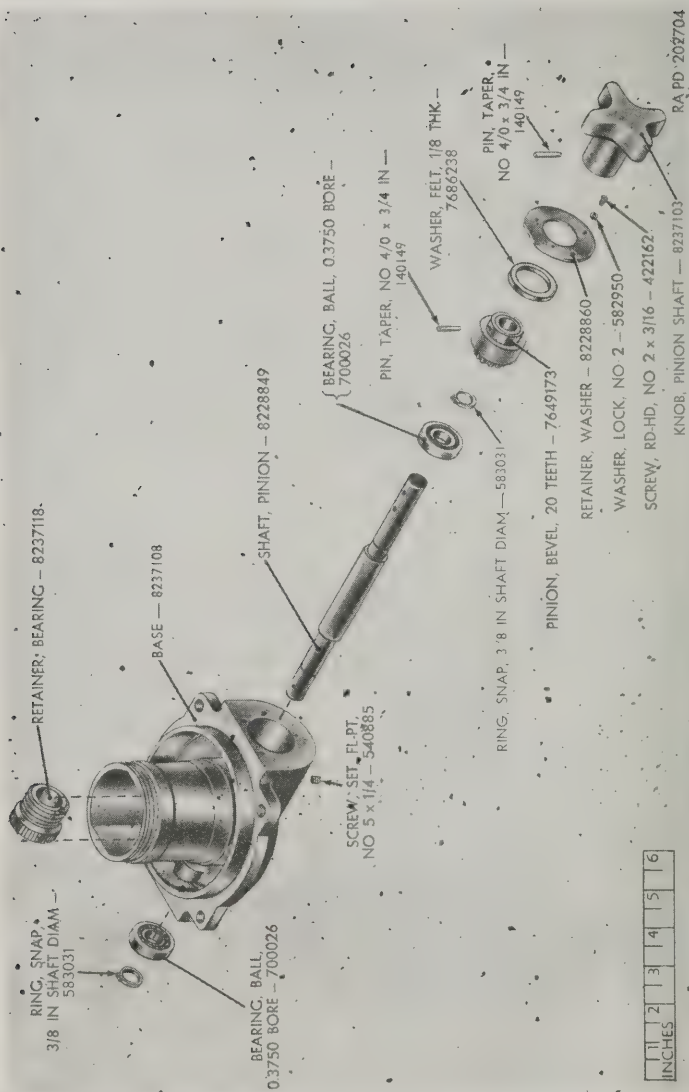

Figure 13. Base assembly 8237117—partial exploded view.
d. Remove the snap ring (fig. 13) from the end of the shaft.
*g.* Remove the three screws and lock washers (fig. 13) from the retainer at the knob end and remove the retainer.
*i.* To remove the pinion (fig. 13) from the shaft, drive out the taper pin and pull the pinion off the shaft.
a. Lubricate the end 0.3750-inch bore ball bearing (fig. 13) with aircraft instruments lubricating oil and insert it against the recessed shoulder in the base.
d. Lower the inner bearing retainer (fig. 13) into the base and screw it a few turns into place. Then insert the shaft, with its inner ball bearing, snap ring, and pinion in place, into the base. Push it far enough in to permit assembly of the  $\frac{3}{8}$ -inch shaft-diameter snap ring for the end ball bearing. With this snap ring in place, move the shaft back until the ring makes light contact with the inner race of the bearing, meanwhile, making sure that the outer race is against its shoulder in the base.
g. Slide the pinion shaft knob (fig. 13) on the shaft and secure it with a No. 4 x  $\frac{3}{4}$  taper pin.